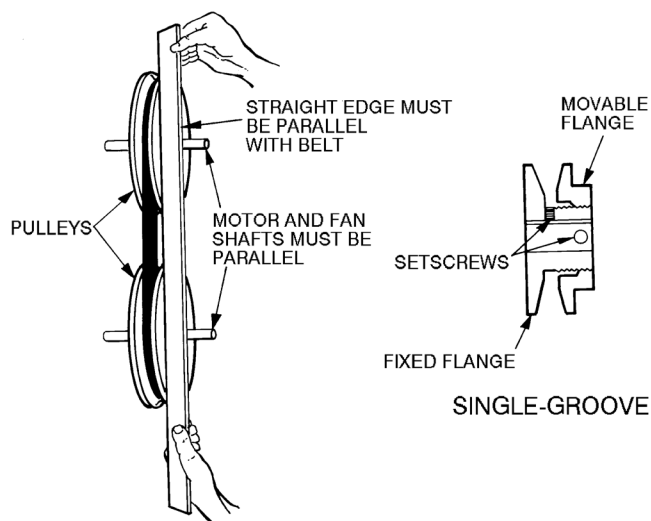

Fig. 27 — Fan Pulley Adjustments
3. Loosen movable pulley flange setscrew (Fig. 27).
Shut off unit power supply. Lock out power supply and tag disconnect locations. Loosen fan motor pulley setscrews and slide fan pulley along fan shaft. Make angular alignment by loosening motor from mounting bracket (see Fig. 27). Check alignment with a straightedge.